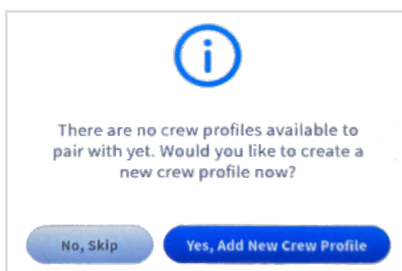

Fig. 1.22
- \*\* The person you are calling must be enrolled in the Crew Profile directory and wearing a headset. See Fig. 1.22 for example. You cannot call an individual if they are using the headset but not enrolled (i.e., the user selected “Continue as guest” when pairing). First names, last names, or full names can be used. For example, if there are two crew members with the same first name, then the headset will prompt you to use the last name of the person you wish to talk to. The receiver must tap the Action key () on their headset to answer. To end the call, either person can tap the Action key () and exit this state.
Once your headset is successfully paired, one of two dialog boxes appears. If there are no crew profiles set up in the system, then Fig. 1.22 will appear. Tap the **No, Skip** button to continue as a guest (this will open the “Select Your Position & Options dialog,” see Fig. 1.24). Or, tap the **Yes, Add New Crew Profile** button (this will open the Create Crew Profile dialog, see “Chapter 2 - Crew” on page 17 and Fig. 2.2).